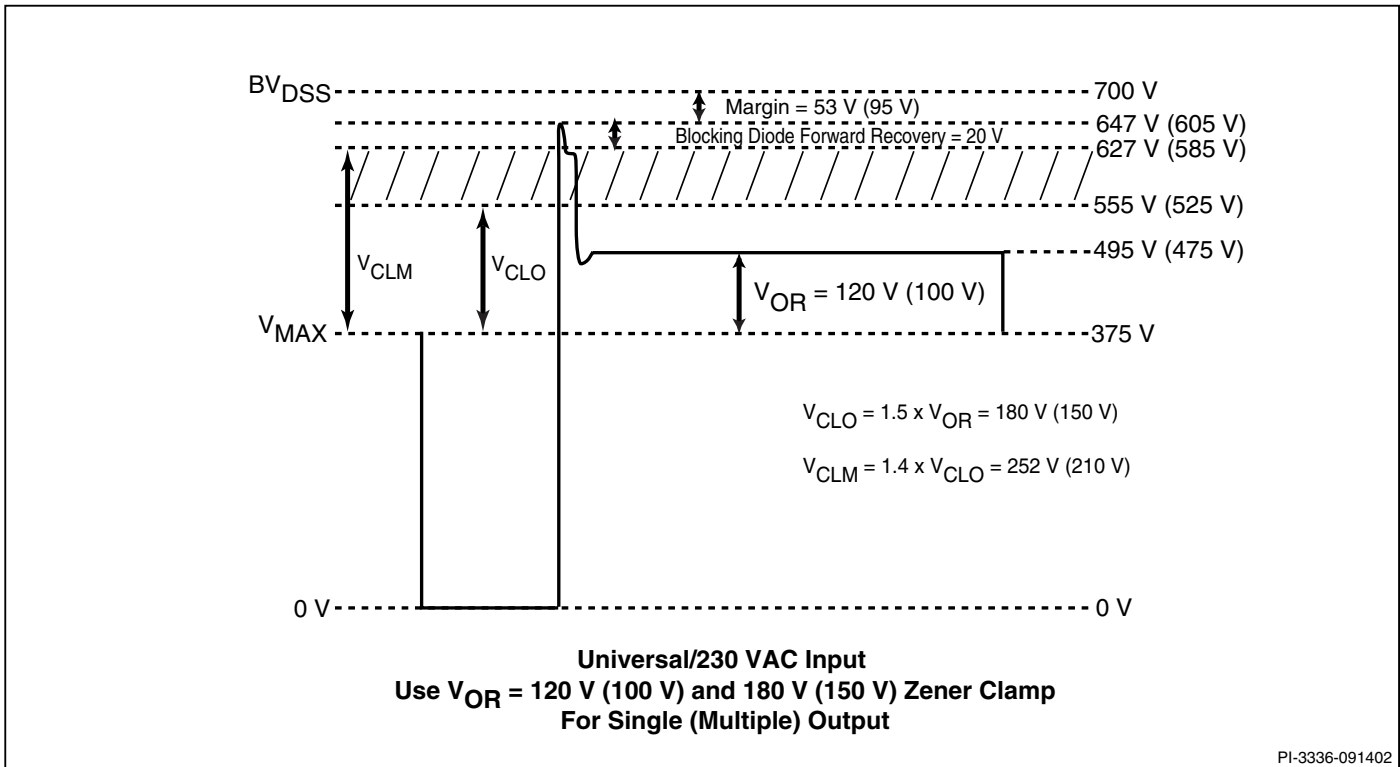

Figure 8. Reflected Voltage V_{OR} and Clamp Zener Voltage V_{CLO} .
Step 4. Determine reflected output voltage V_{OR} and clamp Zener voltage V_{CLO} (Figure 8)